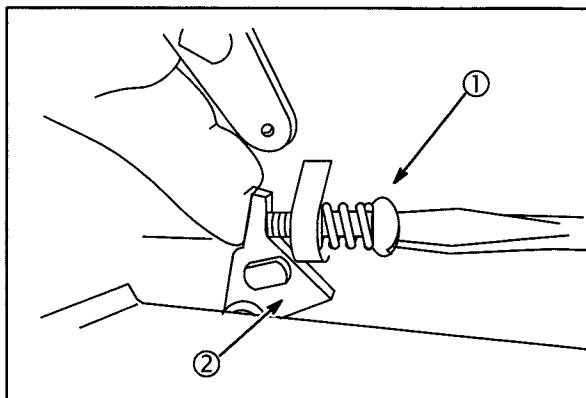

Fig. 10
3. Hold throttle lever (2) against idle speed screw (1), Fig. 10. Temporarily adjust idle to RPM shown below.